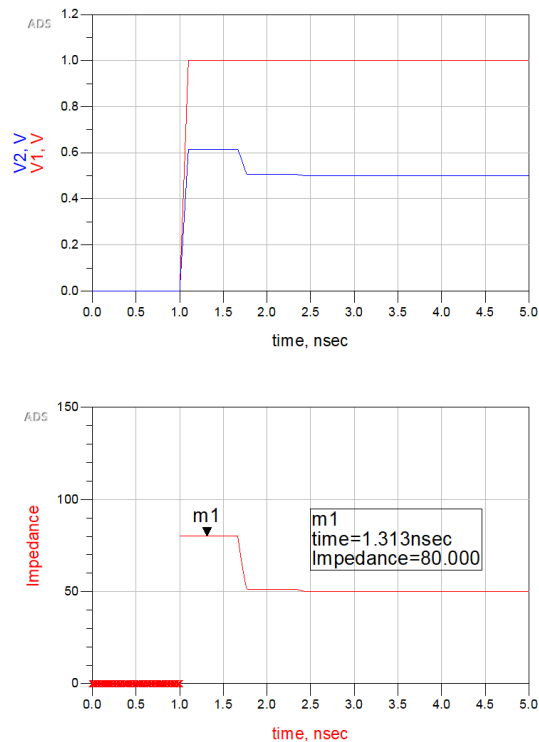

Figure 4: *Transient1* Data Display.
2. Start the simulation. A data display window will automatically pop up. Click on Rectangular Plot and select the data sets as in Figure 4. Insert a data marker in the *Impedance* plot. The value should match with the impedance you set for TLIN in the schematic. Take a screenshot and include it in your report.